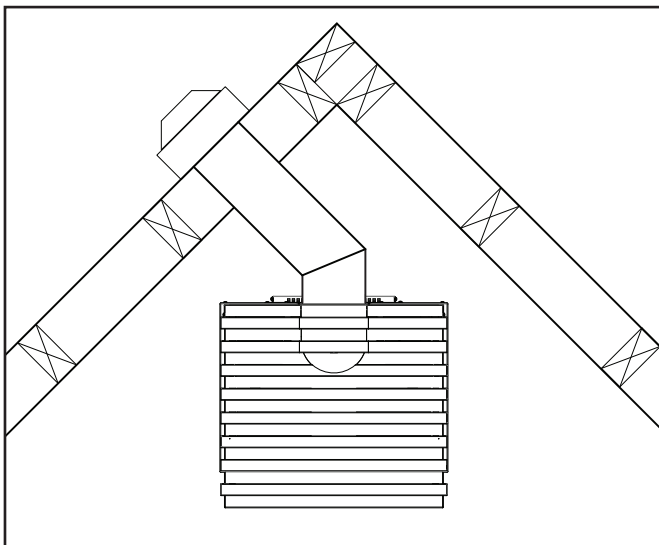
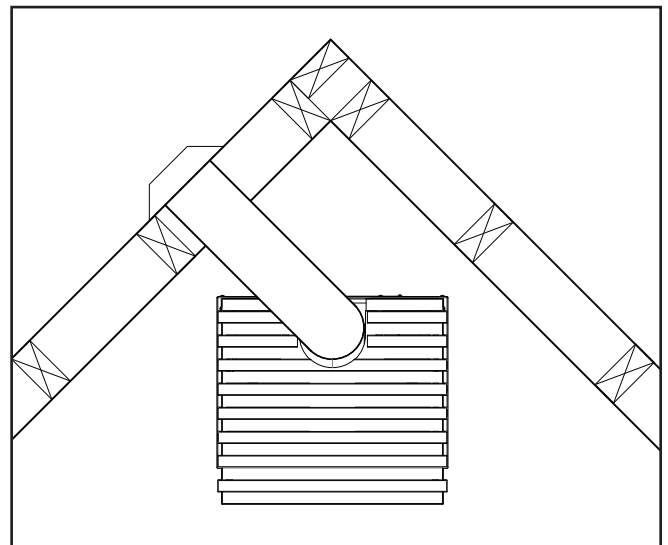

Figure 49: Corner installation rear vented with snorkel.
Figure 50: Corner installation top vented.
When rear venting if a 90° bend is used the maximum horizontal vent that can be used is 6" (152mm) and if a 45° bend is used the maximum horizontal vent that can be used is 12" (305mm). For installations with a 36" (915 mm) snorkel refer to Figure 49 and section "Vent Configurations" on page 25. For other corner installations refer to Figure 50 and section "Vent Configurations" on page 25.
Step 3: Remove the ON/OFF terminal block from the X4 port on the IFC (Figure 50).